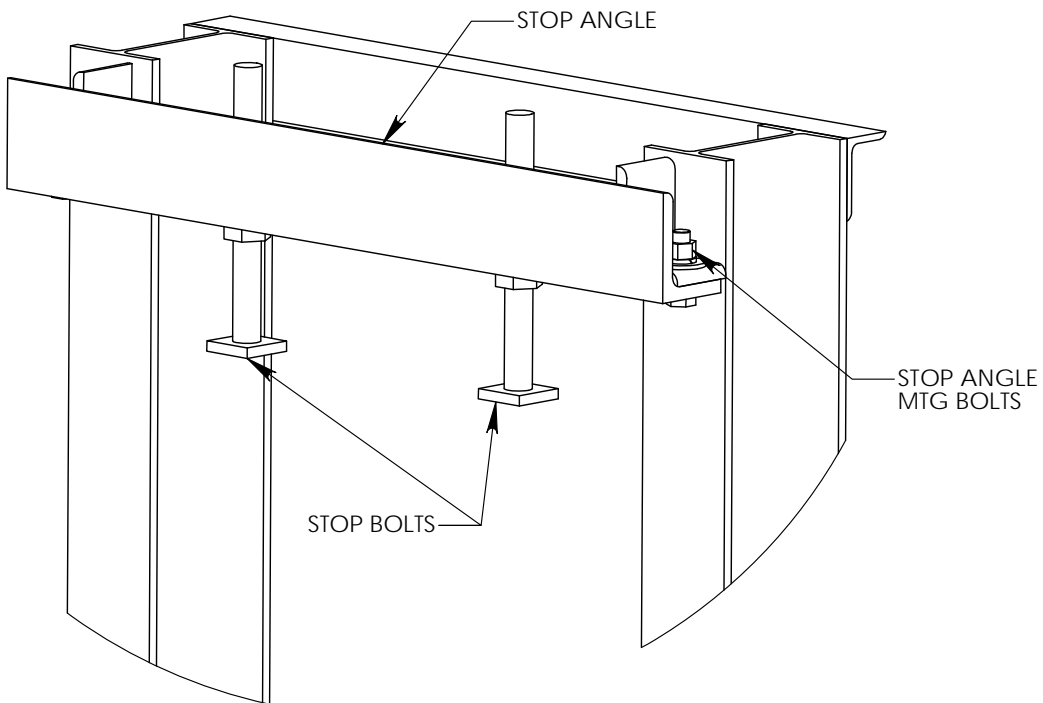

Figure 16 Stop Bolt Location
1. Install the top stop bolts that are provided into the stop angle located at the top of the mast pair (Reference **Figure 16**).
6. Adjust the top stop bolts that are provided into the stop angle located at the top of the mast pair to make contact with the carriage overhead channel when in the fully raised position (Reference **Figure 16**).